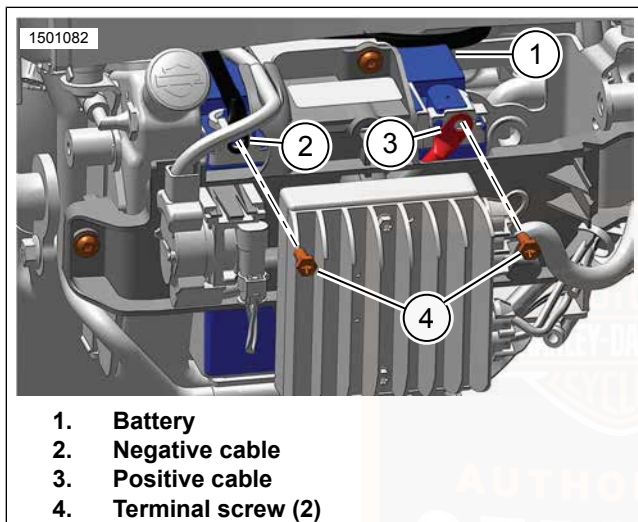
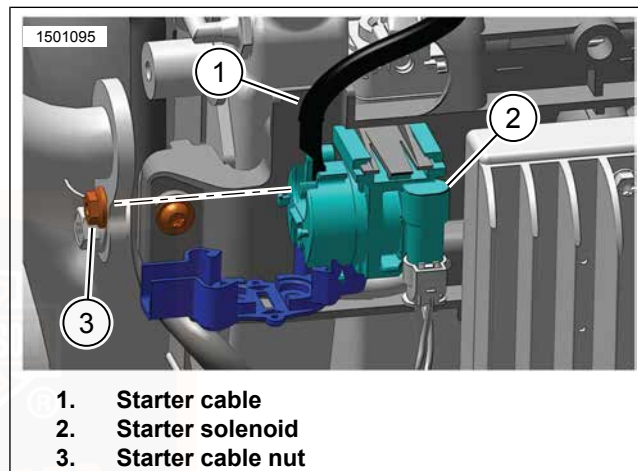

Figure 76. Battery Cables
Figure 77. Starter Cable
2. See Figure 76. Remove battery negative cable (2) from battery (1).
3. Remove battery positive cable (3) from battery.
4. See Figure 77. Remove starter cable (1) from starter solenoid (2).
4. See Figure 76. Install battery positive cable (3) to battery.
6. See Figure 77. Install starter cable (1) to starter solenoid (2). Tighten.